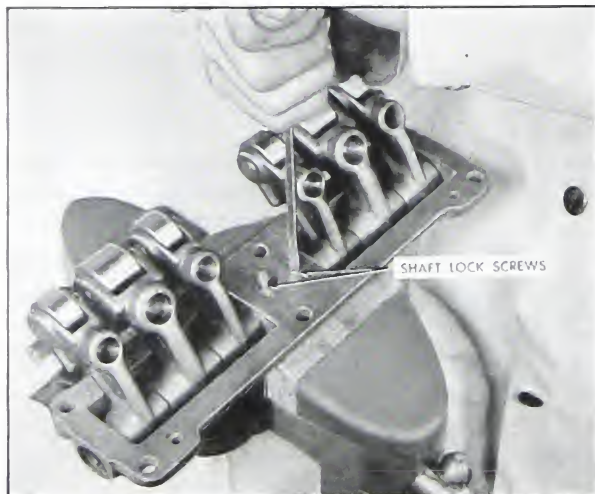

Fig. 4-1. Shaft lock screws
1. Remove the set screws that hold the shafts in the housing. (Fig. 4-1).